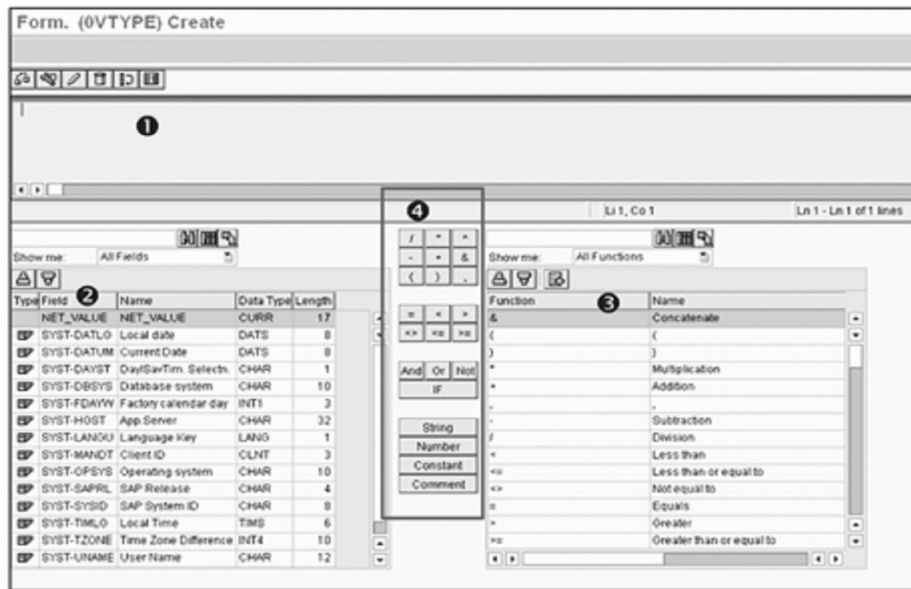

Figure 7.63 Formula Builder
Enter a description for this transformation rule (❺), and then select Formula from the Rule Type dropdown list (❻). This action results in the Formula Builder screen shown in Figure 7.63.
The Formula Builder is a simple but powerful tool that allows nonprogrammers to create simple or complex formulas. It's divided into four different areas: an area to define your formula (1 of Figure 7.63), an area where you can select the fields for the transformation (2), standard functions (3), and various operators used to define formulas (4).